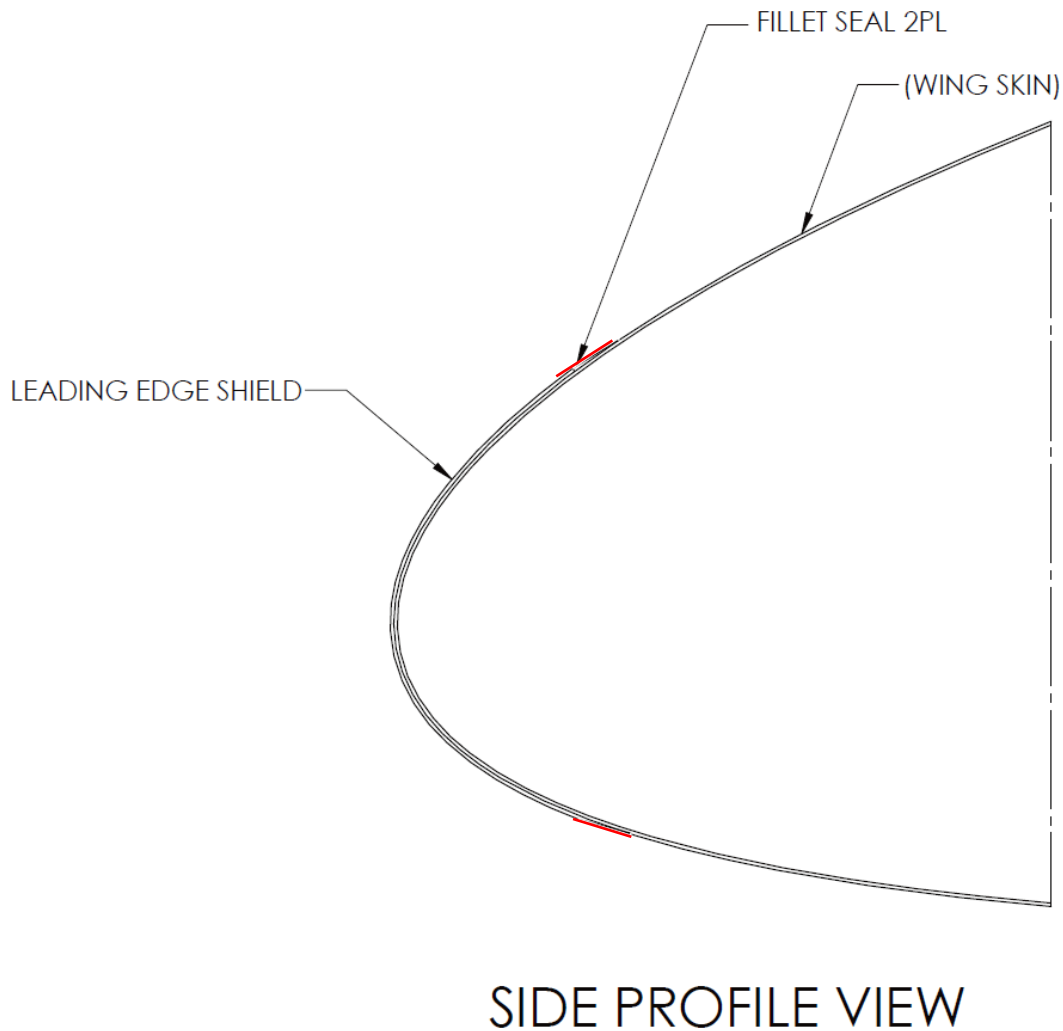

Figure 8-7
14. Apply fillet seal using SIKAFLEX 521UV as shown. (Reference Figure 8-7)